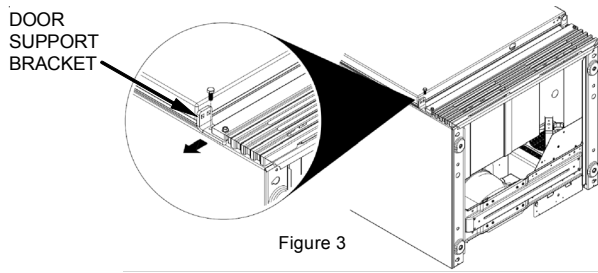

Figure 3
- Remove bottom door support bracket and screw opposite the door hinge using a 3/8" socket wrench (see Fig. 3).